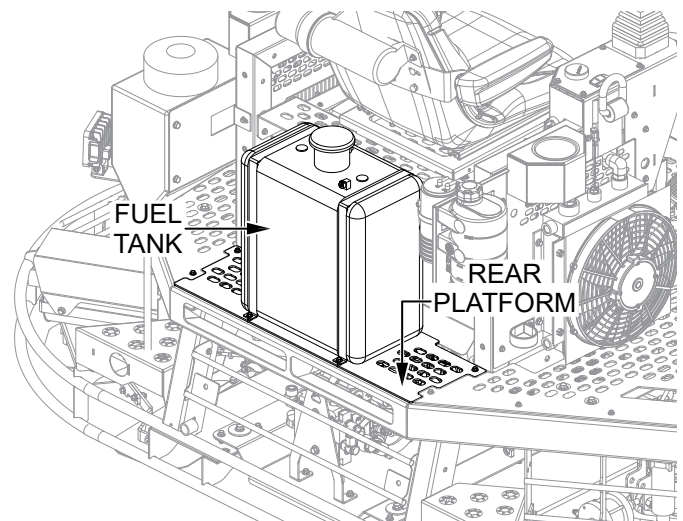

Figure 39. Remove Fuel Tank And Rear Platform
1. Remove the **fuel tank** and **rear platform** (Figure 39).